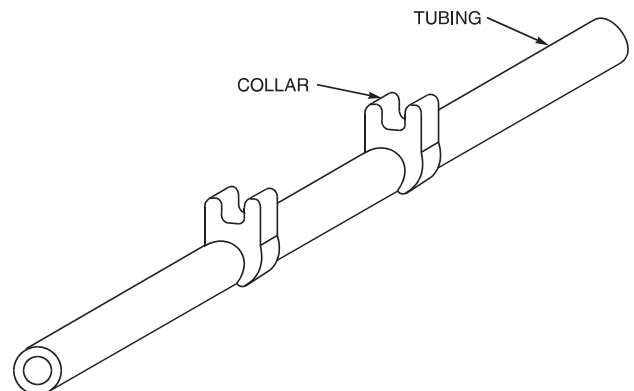

FIGURE 6 MICROBORE TUBING SET
3. Select tubing and place in Cartridge (see Figure 7B). If using a Microbore Tubing Set (see Figure 6), place the Collar up against the Tubing Retainer (see Figure 7C) on both sides of the Cartridge.
*Use only specially designed MICROBORE TUBING SETS with Cartridges (Figure 6).
(3) Select Pump Speed